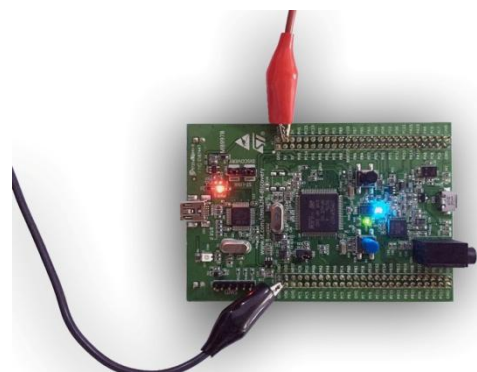

Figure 44: Connecting the Power Cables to the Circuit - Energizing (Step 2)
2. The Power Cable is connected to the Electronic Circuit Power Supply. Red Cable (+), Black Cable (-). (Figure 44)